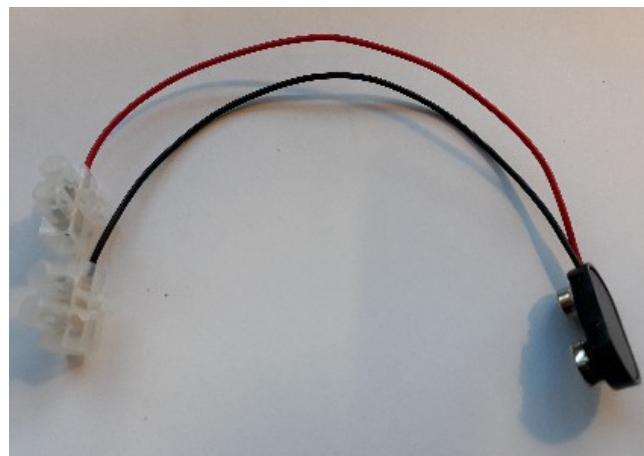

Figure 8: Adding junction boxes to the battery clip
Step 8: You should have a battery clip in your box (it's the sort of clip you would expect to attach to a 9V battery), attach two single junction boxes to it as shown in the figure 8. The junction boxes come in strips of 10, to get a single one, just twist or cut one off the strip. You may also have to use the wire cutters to remove a bit of wire so the wires can be easily screwed in to make a good contact.